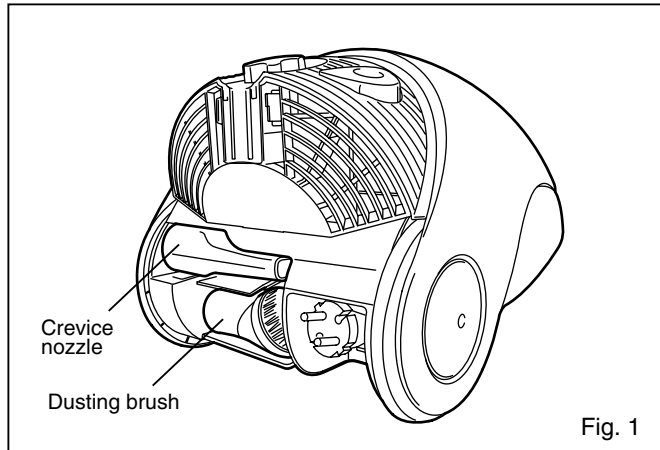

Fig. 1
1. Remove the attachment crevice nozzle and dusting brush. (Fig. 1)